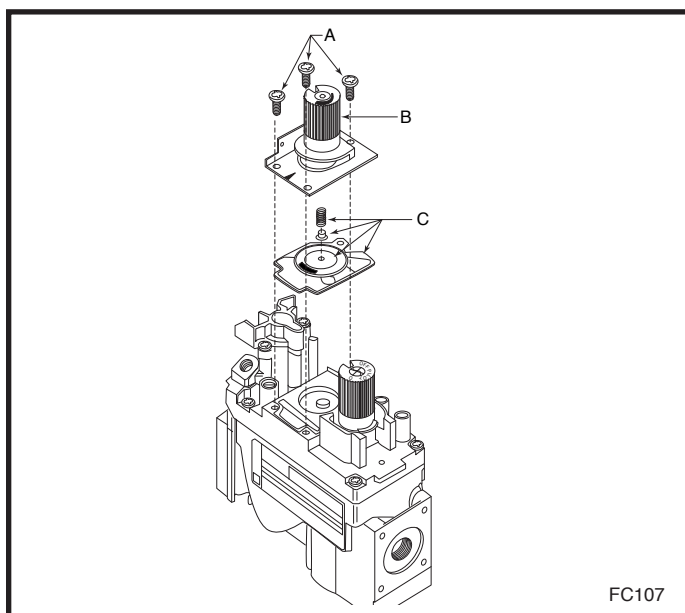

**Fig. 54** Remove pilot hood.
6. Replace the three (3) injectors. Refer to Table 1.
8. Remove pilot hood by lifting up. (Fig. 54) **NOTE:** It is not necessary to remove the pilot tube for conversion.